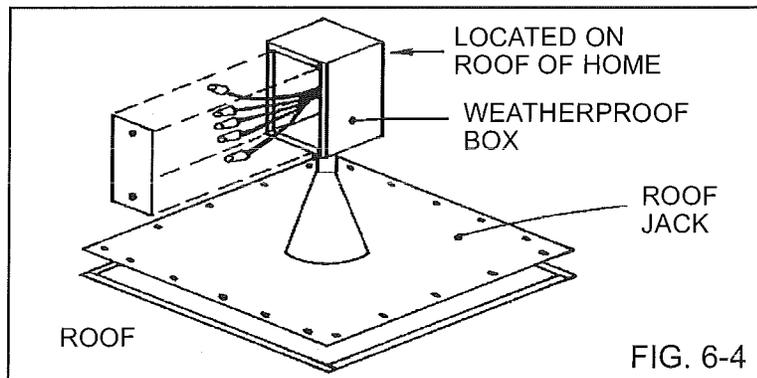

FIG. 6-4
2. Remove the cover from the roof-mounted junction box and make the connection of the color-coded wires using the provided wire nuts. The electrical portion of the installation is now complete (See Fig. 6-4).